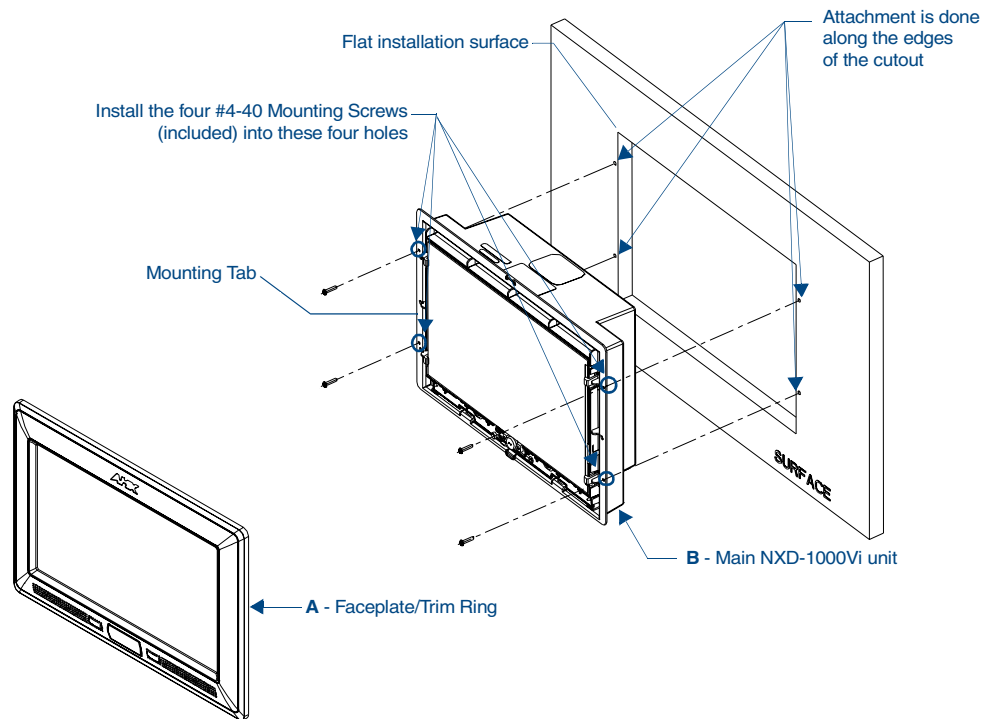

FIG. 25 Wall Mount panel installation configuration for flat surfaces
3. Remove the Faceplate/bezel (**A** in FIG. 25) from the main NXD unit (**B** in FIG. 25) by gripping the faceplate and pulling with gentle outward force.
9. Insert and secure four #4-40 Mounting Screws (included) into their corresponding holes located along the sides of the NXD-1000Vi (using a grounded Phillips-head screwdriver) until the unit is secure and flush against the wall (FIG. 25).
10. Place the Faceplate/Trim Ring assembly (A in FIG. 25) back onto the main NXD unit (B in FIG. 25). *Make sure to align the Microphone, Light, and PIR Motion sensor locations to their respective openings on the front bezel/faceplate.*